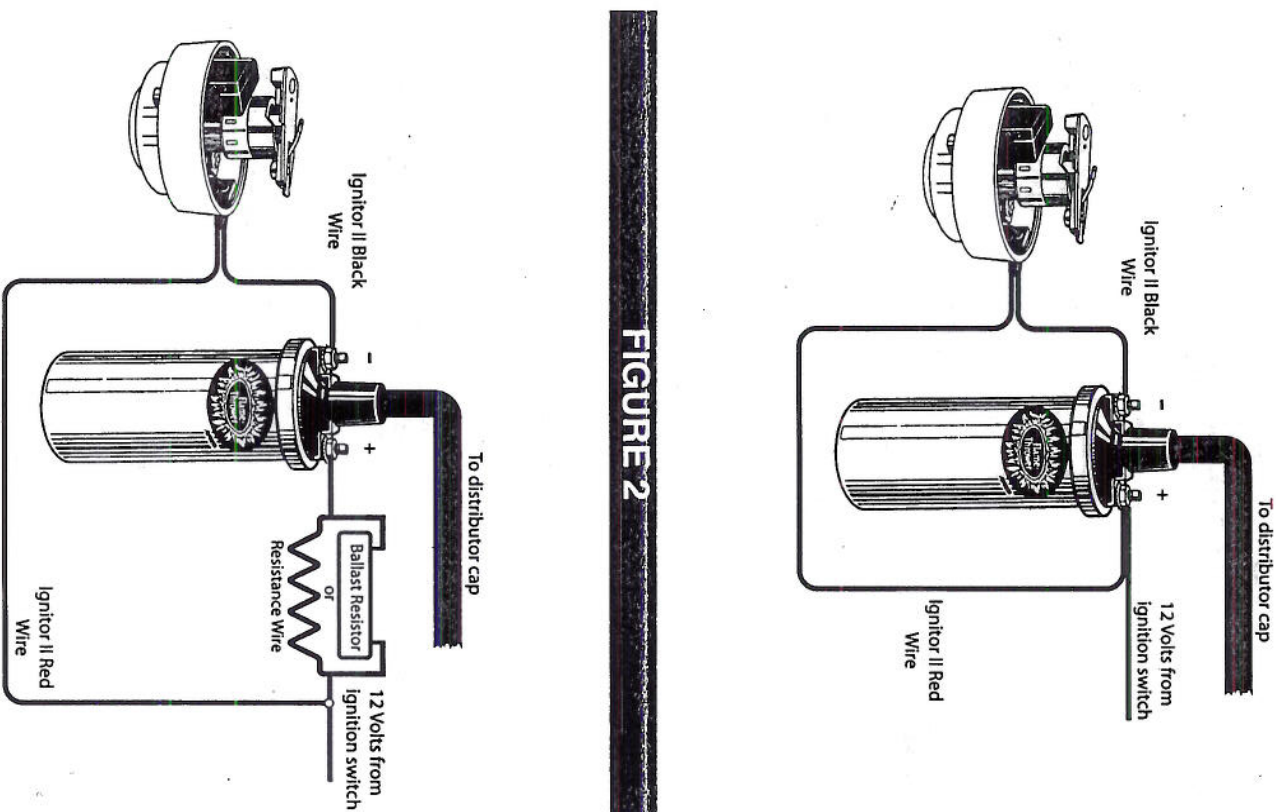

FIGURE 2
- B. Alternative:** The Ignitor II can also be installed in applications retaining the ballast resistor or resistance wire. (See Figure 2)